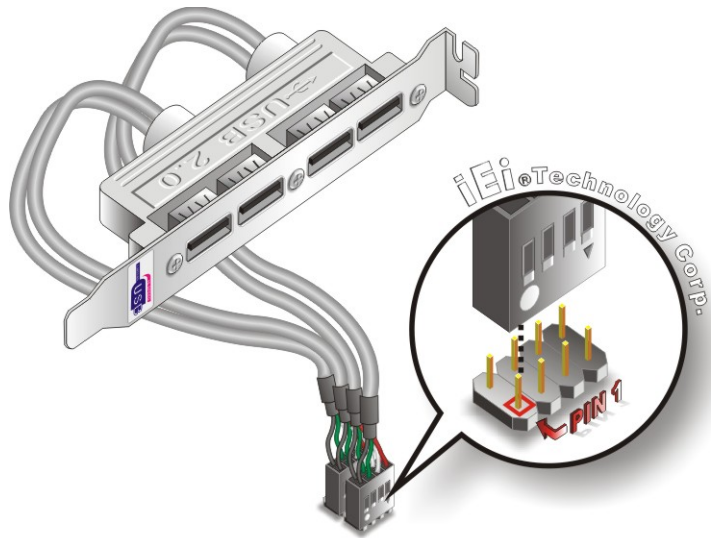

Figure 4-11: Four Port USB Cable Connection
Step 3: Insert the cable connectors. Once the cable connectors are properly aligned with the USB connectors on the KINO-780AM2, connect the cable connectors to the onboard connectors. See Figure 4-11.